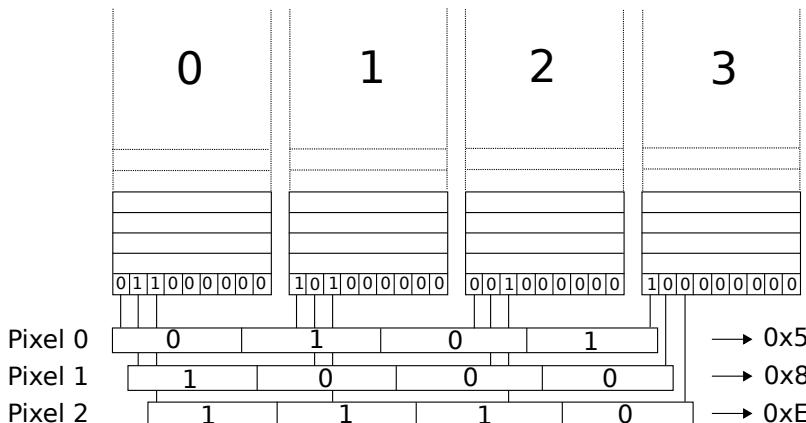

Figure 19: EGA bank layout
To write the color of the first pixel, a developer has to write the first bit of the nibble in plane 0 (R), the second in plane 1 (G), the third in plane 2 (B) and the fourth in plane 3 (I). The CRT Controller then reads 4 bytes at a time (one from each plane) resulting in 8 pixels on screen. So in figure 19 the first pixel has color magenta(05h), second pixel dark grey (08h) and third pixel bright yellow(0Eh).